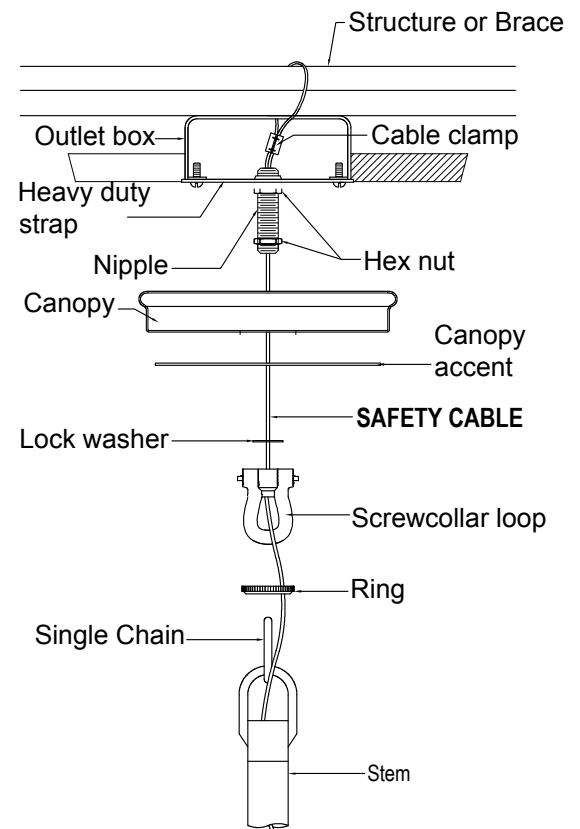

Figure-1
1. Thread the nipple into the heavy duty strap and the nut onto the nipple. Attach the heavy duty strap to the outlet box. Attach the safety cable to the structure or brace. See figure-1.